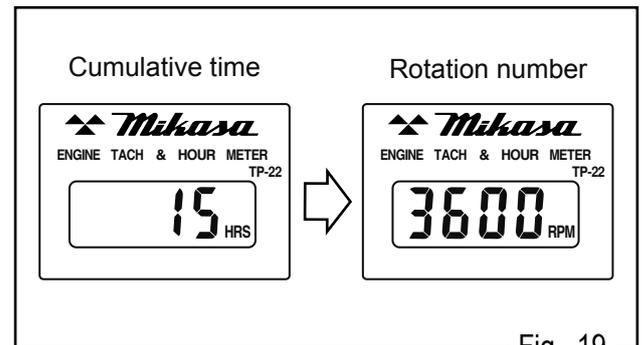

Fig. 19
- "Rotation number" is displayed during operation. (Fig.19)